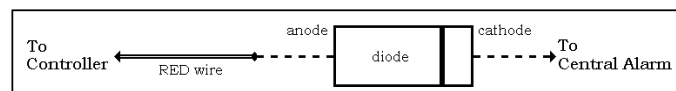

Figure 13.5 Diode orientation
2. Using the RED wire, connect one of the terminals on the Zone Alarm Terminal Strip in the Central Alarm unit (with a diode in-between the RED wire and Central Alarm; Figure 13.5) to P9-pin3 (Alarm Out) of the Controller you are connecting.